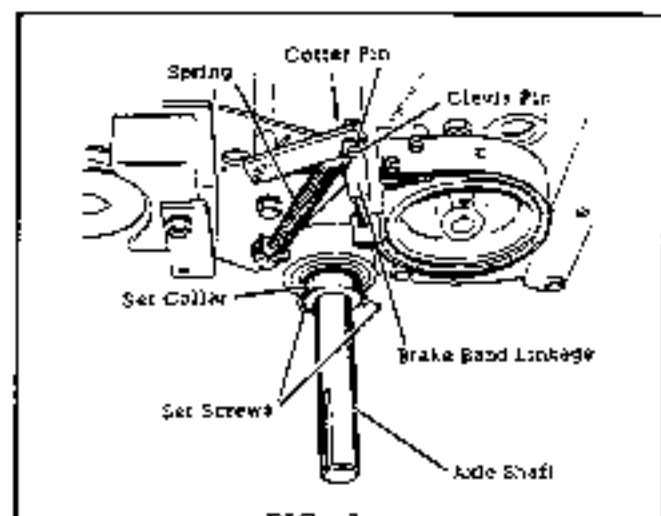

FIG. 3
6. Loosen the 2 setscrews holding the set collar on the axle shaft, as shown in Fig. 3, and remove the collar. Should the collar stick or bind on the paint on the axle shaft, remove the paint and sandpaper shaft. After the collar is removed, clean the axle shaft of any remaining paint and remove any burrs from edge of key-way or setscrew lock points by using a fine file. Burrs or paint, etc., will damage bearings when the axle shaft is removed, so be certain the axle shaft is smooth and clean.